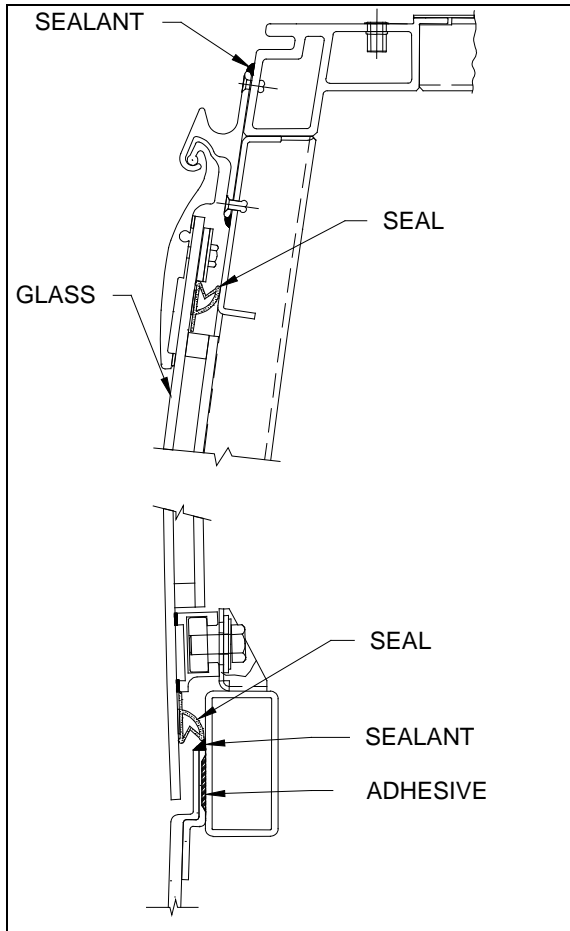

FIGURE 48 : WINDOWS ABOVE SIDE PANELS
Refer to procedures described in Prevost maintenance manual. Refer to figure 48 for tape, sealant and adhesive position.
2. Apply appropriate double face self adhesive tape on the slide-out structure (figure 48).